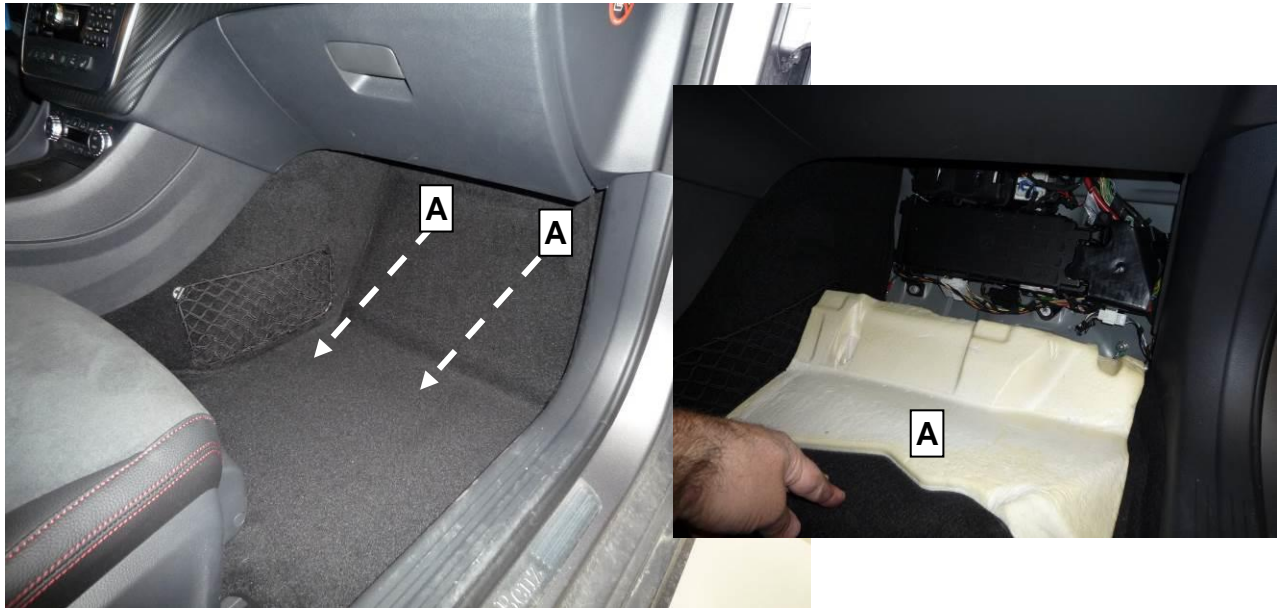

Figure 1
1. Fold back floor covering (A, Figure 1) in right front passenger foot well.